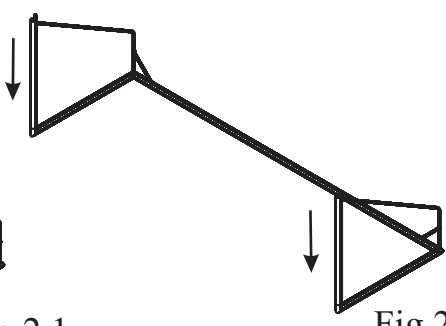
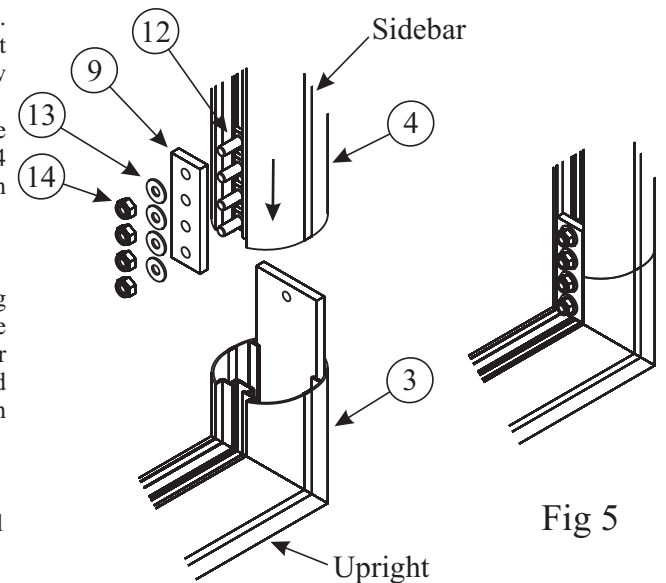

Fig 2.2
Fig 5
4 Sidebar - Insert 4 square head bolts into the sidebar and fit the Joint Plate (9) with washers (13) and nuts (14) (hand tighten 3 nuts and fasten the last enough to stop the plate sliding down the section when the sidebar is lifted into position). Lift the side bar into a vertical position and slide onto the upright. Loosen the joint plate and slide into position then fasten as shown in Fig. 5. At this point do not secure the net supports to the sidebars. The goal will now resemble Fig. 2.2.